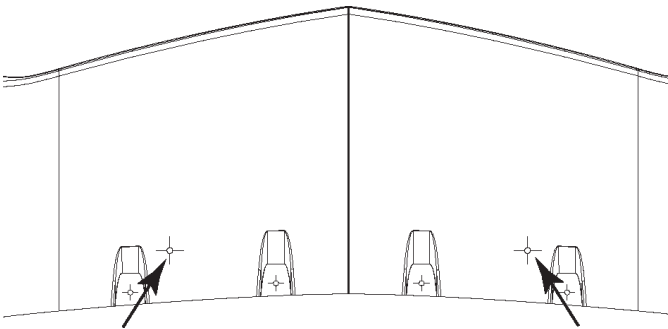

FIGURE 46
3. Use a 1 1/4" (33mm) hole saw to drill 2 holes in the cladding, at the positions marked by the 2 forward cross hairs on the underside of the cladding. Refer to figure 46.